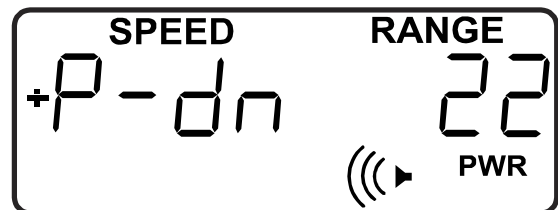

Figure 6
1. Press the **MENU** key seven times to reach the Automatic Power Down setup window (Figure 6).